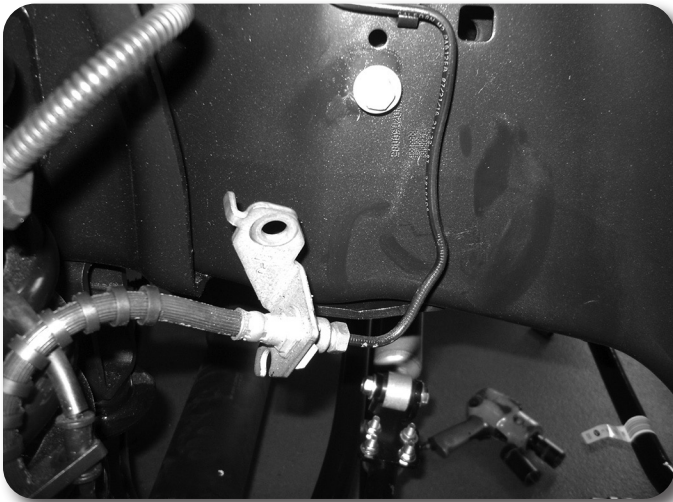

Figure 4A
8. Remove the clips holding the front brake lines to the brackets on the frame. Carefully cut the factory bracket so that the brake line can be removed without breaking loose the fittings. Remove the factory brackets from the vehicle. Do not damage the brakeline! Figure 4A,B